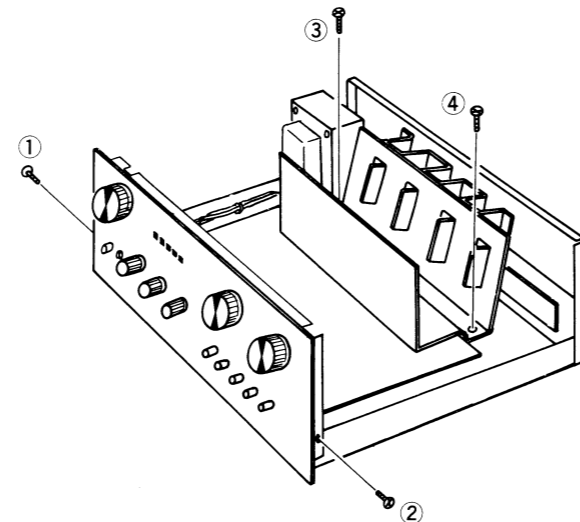
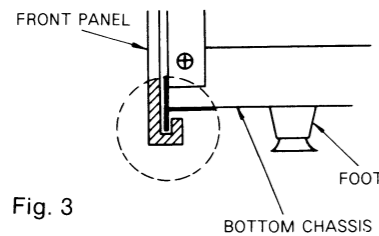

Fig. 2
Fig. 3
- (1) Remove the cabinet.
- (2) Loosen two screws ① and ② holding the front panel.
- (3) Loosen two screws ③ and ④ holding the heat sink as shown in fig. 2.
- (4) Remove the P.C.B. with panel.
- (5) When installing the front panel, insert the bottom chassis into groove of panel, and tighten screws after checking to fit the headphone jack and push switch button to hole of panel as shown in fig. 3.